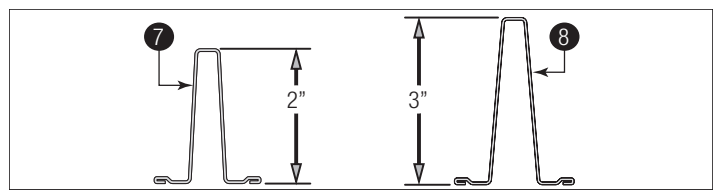

Figure 19
**IMPORTANT:** All struts ① are placed at the top of the sections and up against the bottom of hinges ②, for the Bottom Section ③, Lock (Second) Section ④, and Intermediate Section(s) ⑤ ⑥.
**IMPORTANT:** Measure the height of your strut(s) to determine if you have 2" Struts ⑦ and or 3" Struts ⑧. See Figure 19.